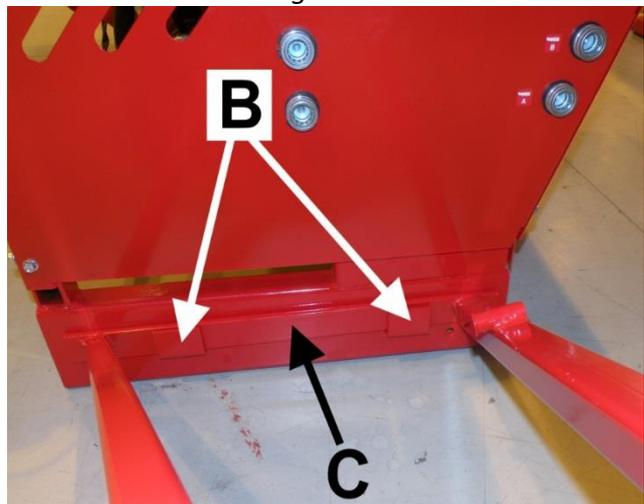

Figure 4.
3. Lower the input conveyor down with your right hand and, at the same time, use your left hand to guide support leg C into slots B, as instructed in Figure 4.